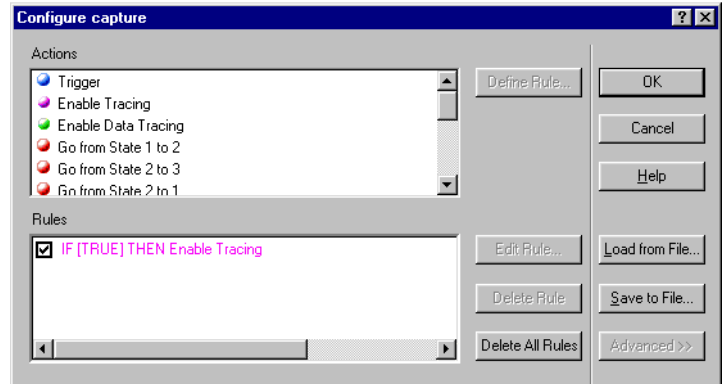

Figure 8-15 Configure capture dialog box
4. Click **Finish** to create this rule. The Configure capture dialog box now shows the new Enable Tracing rule in the Rules list, as shown in Figure 8-15 on page 8-19.